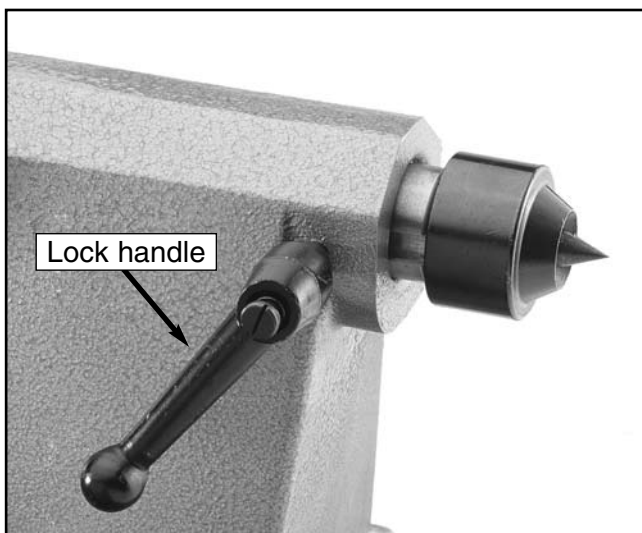

Figure 19.
A #2 Morse taper live center is supplied with the lathe and is preinstalled from the factory (**Figure 19**). To remove it:
(1) The tailstock barrel lock handle (Figure 19) must always be locked down while the lathe is in use. The workpiece can be thrown from the lathe if this step is not observed. (2) The tailstock barrel should not protrude from the tailstock housing more than 2". Serious personal injury may occur.